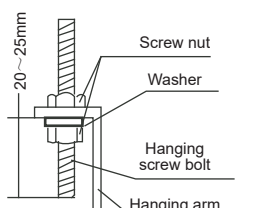

Fig. 5-9
- Locate the hanging arm on the hanging screw bolt. (Refer to Fig. 5-9.)